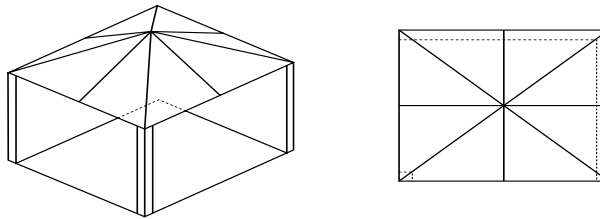

Figure D.2 - Outdoor area - Example 2
- (B) Within a partial enclosure that includes an overhead cover and no more than two walls. (See Figure D.2 & D.3)